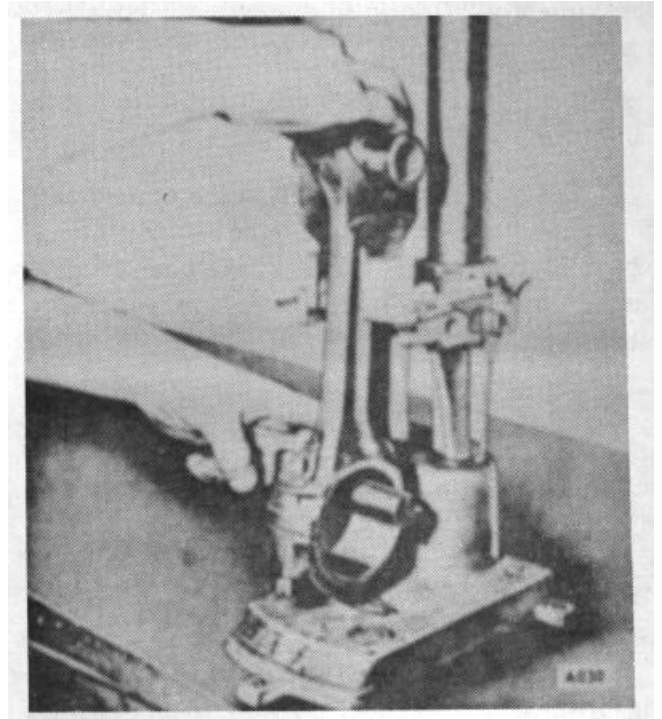

**Figure 28.**
4. The piston pin hole in the connecting rod must be parallel to, and in the same plane as, the large bore in the bearing end of the connecting rod. This may be checked on a fixture with the piston. Figure 28 (Parallelism) and Figure 29 (Twist).